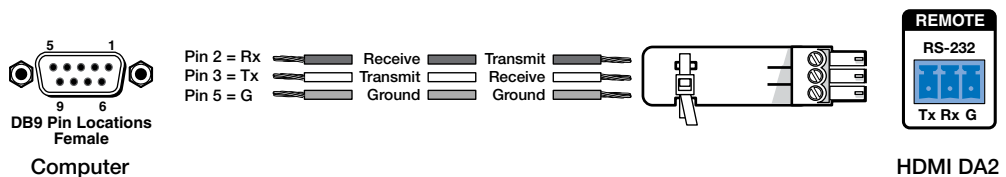

Figure 3. Wiring the HDMI DA2 for RS-232 Control
1. Connect an RS-232 cable, such as Extron universal control cable (UC 50' or UC100') to the computer, using a female 9-pin D connector (see figure 3, below):
2. Wire the opposite end of the cable to the provided 3-pole captive screw plug (see figure 3):